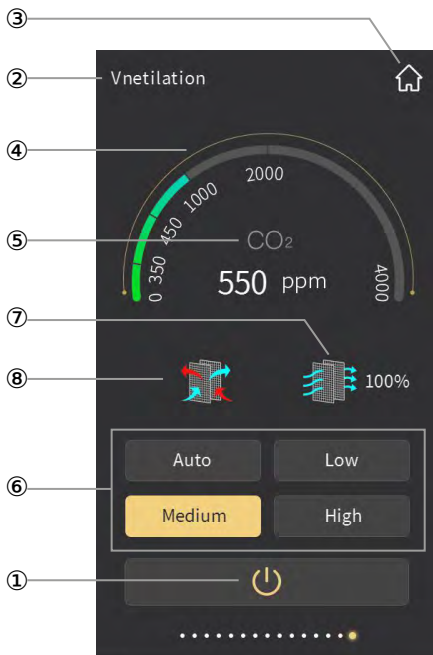
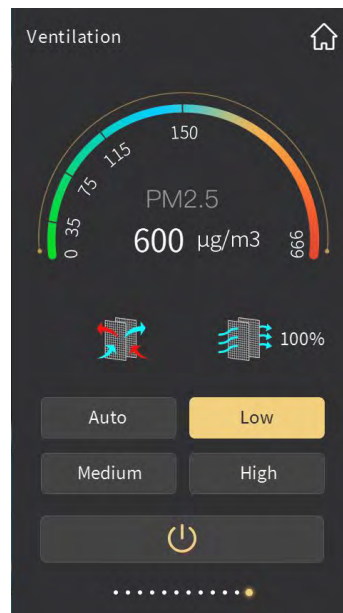
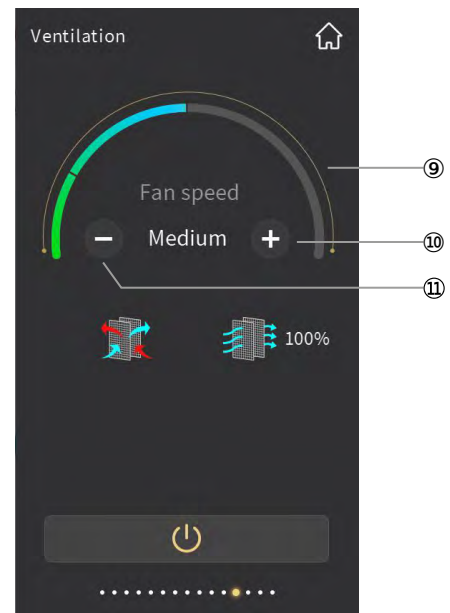

Fig.2.6.1
Fig.2.6.2
Fig.2.6.3
Only when auto fan speed control of ventilation system is enable would this interface display, as shown in Fig.2.6.1 and Fig.2.6.2.
CO₂ concentration shown as Fig.2.6.1, according to the value received from the bus, range 0~4000ppm; if the data exceed 4000ppm, then the interface will display 4000ppm.
PM_{2.5} concentration shown as Fig.2.6.2, according to the value received from the bus, range 0~999ug/m³; if the data exceed 999ug/m³,then the interface will display 999ug/m³.
There is up to 4 options for fan speed mode: Auto, Low, Medium and High. When fan speed auto control is enable, auto fan speed adjustment will be displayed on the interface, shown as Fig.2.6.1 and Fig.2.6.2. Whether fan speed auto control is enable or not is configured through parameter configuration.
- ⑦ This icon is the filter timer icon;
Whether the filter timer counter function is enable or not is configured through parameter configuration. When disable, there will be no display of filter timer counter function on the interface as shown in Fig.2.6.1; when enable, icon⑦ will be colorful after ventilation system ON, the remaining evaluation value will be displayed next to it. The value will be updated according to the use time, which will be updated through the bus.
- ② This is the heat recovery icon, used to turn on or off heat recovery function;
Whether heat recovery function of ventilation system is enable or not is configured through parameter configuration. When disable, there will be no display of heat recovery function on the interface as shown in Fig.2.6.1; when enable, heat recovery function is turned on by default when ventilation system is ON, and the heat recovery function can be turned on or off by touching icon ②. The icon on indicates that the heat recovery is on; the icon off indicates that the heat recovery is off. In addition, heat recovery function can be turned on or off through the bus. And there would be no responding after enable heat recovery function.
- ③ This ring bar displays specific fan speed level;
- ④ To increase fan speed level by touching this icon ;
- ⑤ To decrease fan speed level by touching this icon.
- When fan speed is not configured as auto, as shown in Fig.2.6.3, by touching icon ④ and icon ⑤ to adjust fan speed; for each touch of icon ④ and icon ⑤ to adjust one level, there is 3 modes of fan speed: Low, Medium and High. At this time, the adjustment is manually, not automatically according to the concentration of CO₂ or PM2.5.